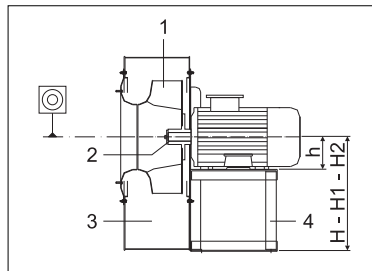

FIG. 21 (Assembling the base case)
- 1) Insert the impeller (FIG. 21 - Ref. 1) on the electric motor shaft (FIG. 21 - Ref. 2). For impellers of a given weight, we suggest to screw to the electric motor shaft a support pole with a diameter lower than that of the electric motor shaft, insert the impeller, push it manually up to the shaft and then unscrew the pole. It is recommended to support the impeller by hanging it to a hoist, using ropes or chains suitable for the weight, until its complete insertion;
5.4.3- Assembling the base case (FIG. 21)
In large size fans, the base is directly welded to the case; while in the medium / small ones, the case (FIG. 21 - Ref. 3) has to be fastened to the base (FIG. 21 - Ref. 4) by means of bolts. It is compulsorily to fasten the case to the base according to the orientation required upon order (FIG. 13).